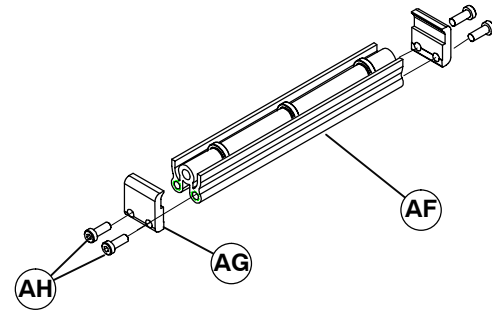

Figure 15
- Typical return roller components (Figure 15)